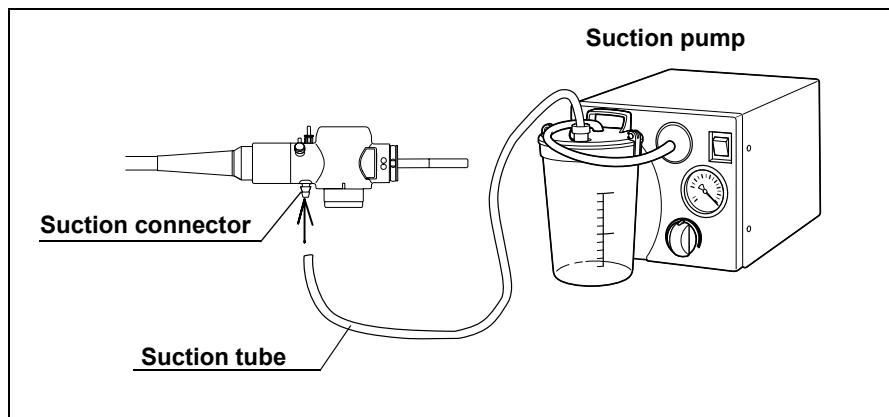

Figure 3.21
8. Connect the suction tube from the suction pump to the suction connector on the endoscope connector (see Figure 3.21).